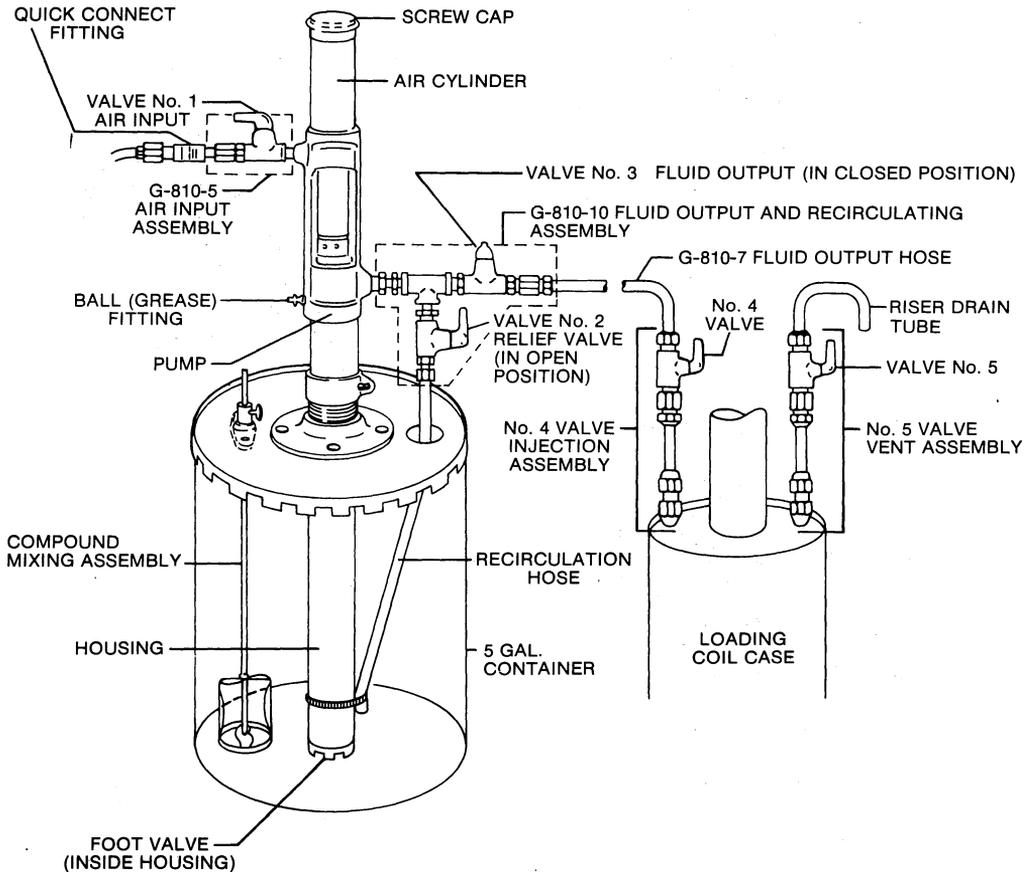

FIGURE 4
5.01 Refer to Figure 4 (Page 3) while following the instructions below.